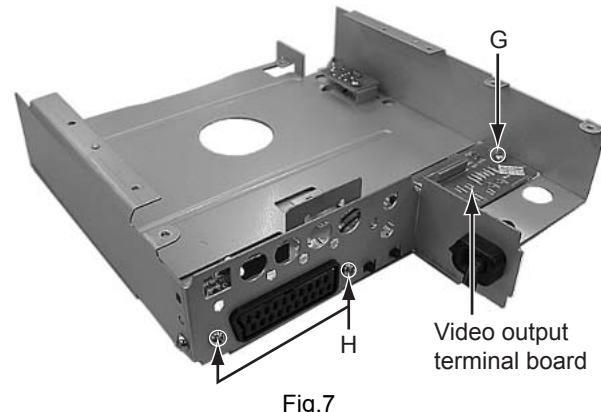

Fig.7
2.1.4 Removing the video output terminal board (See Figure 7)